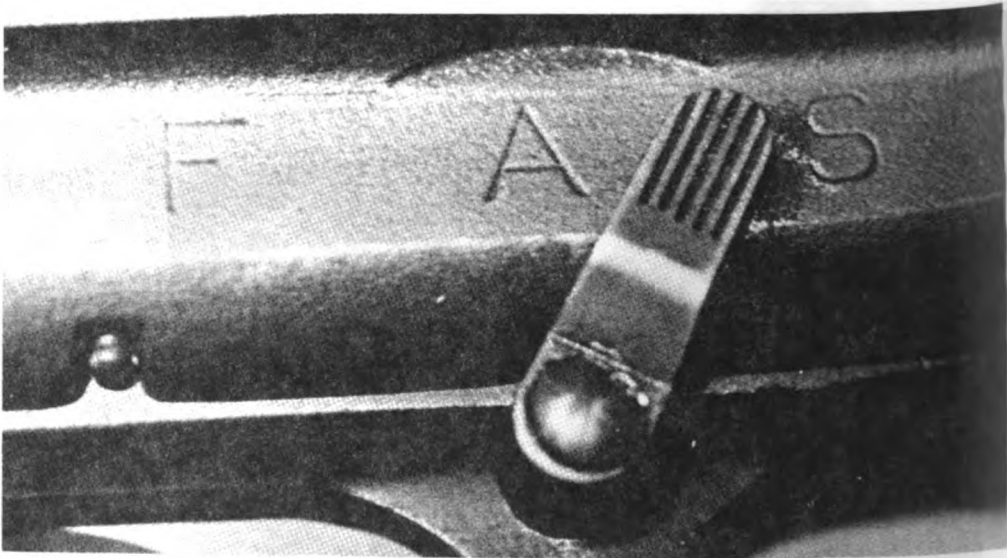

Figure 2
(1) Rotate change lever to desired setting: (See fig. 2)